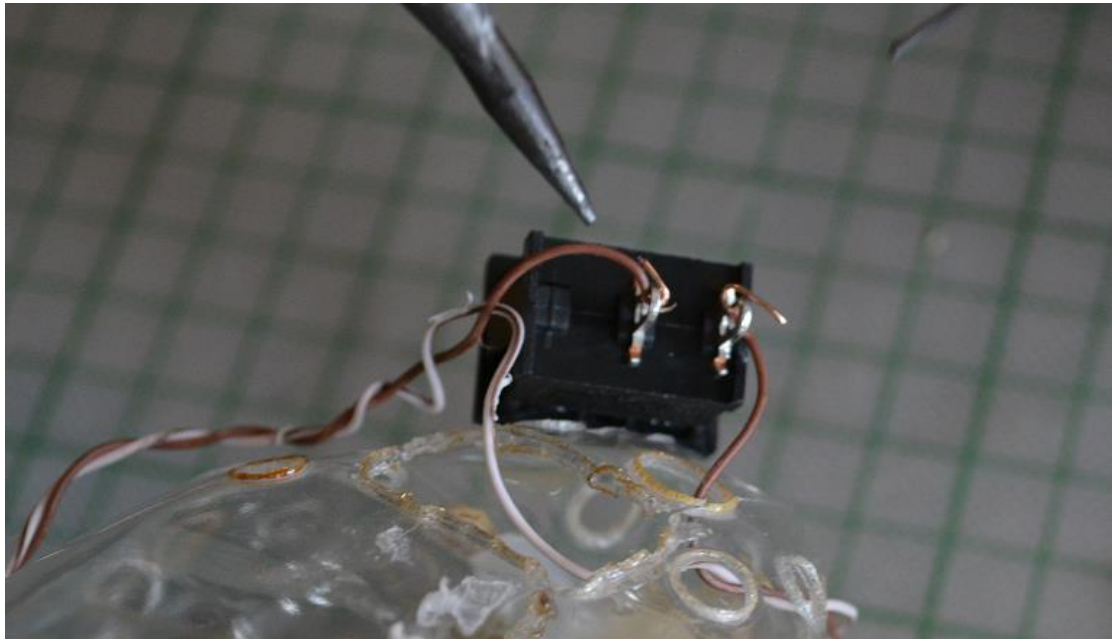

Figure 32
- Cut either the red or the white wire. Solder the one end of the wire you cut to the one terminal of the switch and the other end of the wire to the other terminal of the switch (see Fig. 32).